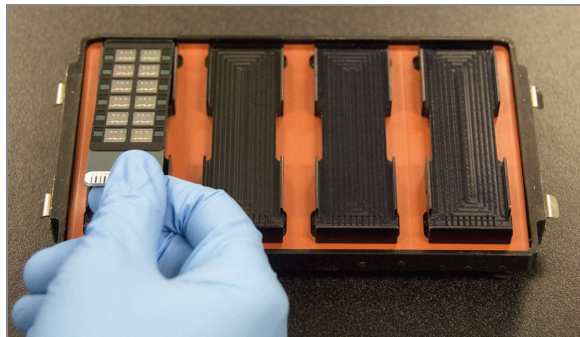

Figure 153 Placing BeadChips in the Hyb Chamber
3. Carefully remove each BeadChip from the Robot BeadChip Alignment Fixtures when the robot finishes. Place each BeadChip in a Hyb Chamber insert, orienting the barcode end so that it matches the barcode symbol on the insert (Figure 153).